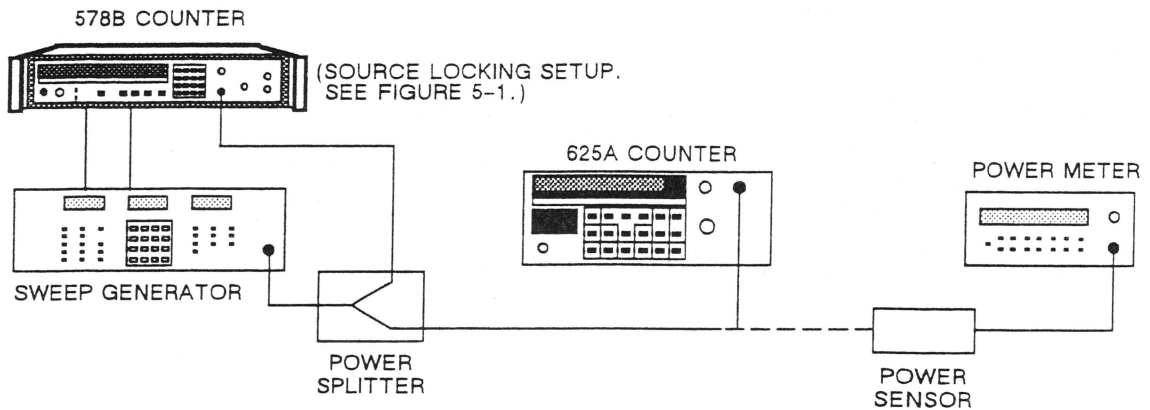

Figure 5-4. Band 2 Range and Sensitivity Test Setup.
1. Connect equipment as shown in Figure 5-4.